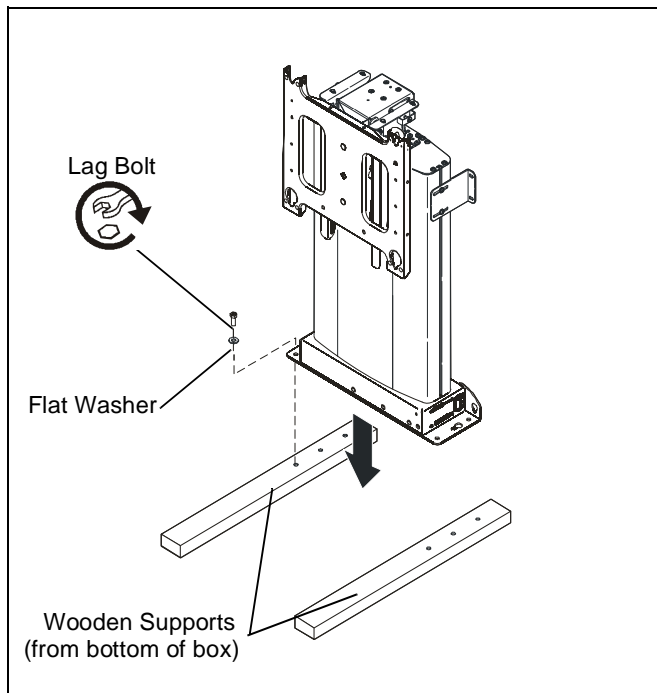

Figure 1
3. Lay two wooden supports on floor and mount to supports using four 5/16" flat washers and four 5/16" x 2 1/2" lag bolts (hardware provided). (See figure 1)